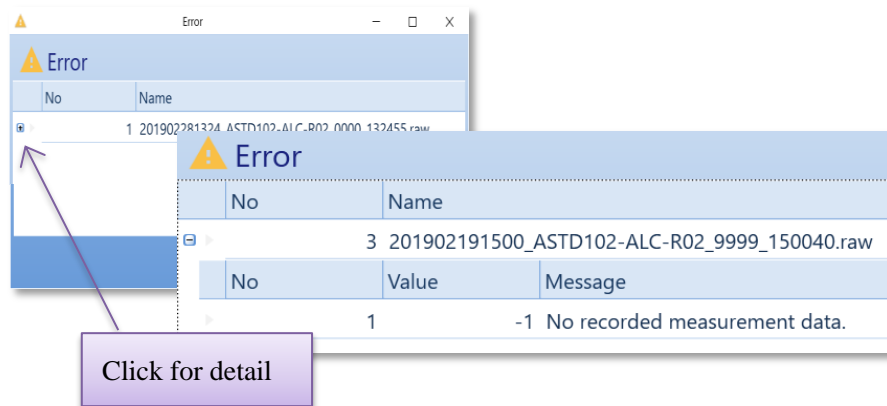

Figure 6.38 Error window
- (5) Displays “error” window if any error occurs in conversion process. (Figure 6.38)